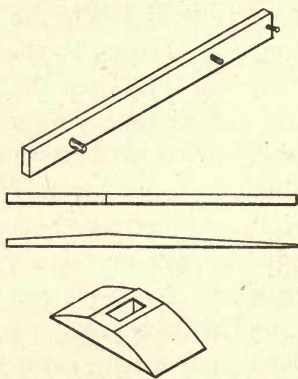

FIG. 100. — CATCH, SPRING, AND SLOT OF GATE.
4. **Making catch, spring, and slot.** — The catch should be made of some hard wood $1'' \times 3'' \times 4' 6''$. $1''$ from one end a $\frac{1}{2}''$ hole is bored, $12''$ from the same end another $\frac{1}{2}''$ hole is bored, $9''$ from the other end another hole of the same size is bored. Hard wood pegs should be fitted in these holes. The one for the first hole needs to be about $3''$ long, while the other should be about $5''$ long so that it can be handled easily in pulling back the catch to open the gate (Fig. 100). The spring should be made of hickory $3' 3''$ long and about $1''$ square.
post is large; otherwise one can be made from a block of hard wood, as shown in Fig. 100, and nailed to the post. Lay the catch where it belongs on the gate and nail over it two strips in line with the two uprights.